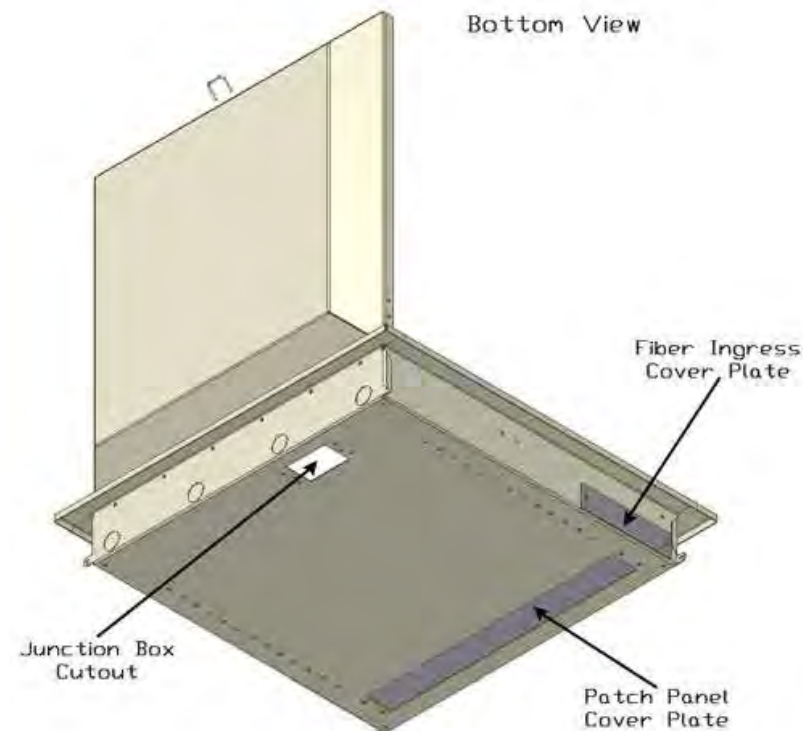

Figure 1
Step 1 – Place the *telecom ceiling enclosure assembly* on the work surface with the door facing up and keyed doorway unlocked. If applicable, remove patch panel and fiber ingress cover plates (Figure 1) located on the outside edge and back of the box (near key lock) and install patch panel and CCH style fiber optic adapter panel according to the manufacturer's specifications.